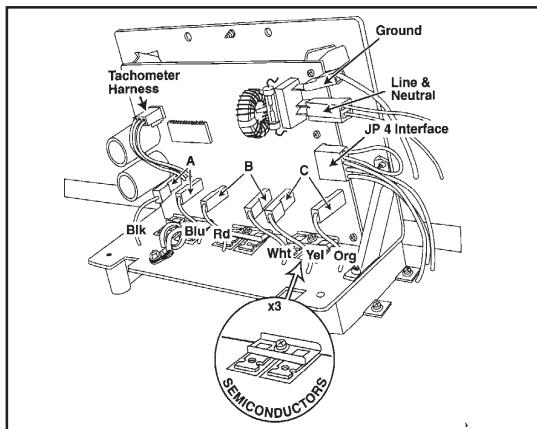

Figure 2-6
Refer to section titled **Motor Control** for board identification of A, B and C terminal/harnesses (**Figure 2-6**). Also, see the wiring schematic for harness identification.
A. Check the 10-amp fuse located on the control board, either visually or with an ohm meter. If bad, completely replace motor control/wire harness assembly (**Figure 2-6**).
B. If the fuse is functioning, visually check the six semiconductors on the heat sink for any damage. If damaged, replace motor control/wire harness assembly complete and check motor windings for damage (**See Drive Motor**). Replace motor if necessary (**Figure 2-6**).
To gain access to the motor control board terminals (*Figure 2-6*):
6. Reconnect the ground wire, line 1 and neutral wires. Leave the JP4 connector off the board (*Figure 2-6*).